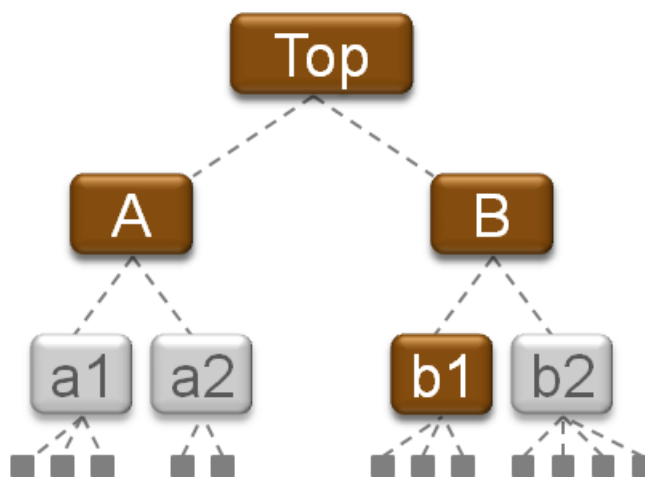

Figure 2: Searching the Design Hierarchy
As an example, Figure 2 shows a hierarchical design where the modules A and B are instantiated at the top-level. Module A includes the a1 and a2 hierarchical instances, and module B includes the b1 and b2 hierarchical instances. Each of a1, a2, b1, and b2 has leaf cells (unisim instances) inside, as indicated in the figure.
The following example is based on Figure 2 which shows a purely hierarchical netlist.
The `-hierarchical` search is equivalent to manually performing a search at each level of the hierarchy, using the `current_instance` command to set the search scope to a particular hierarchical instance, and return all the objects that match the specified name pattern at that level. The following Tcl code, based on Figure 2, illustrates this manual process:
**IMPORTANT:** When `-hierarchical` is used with `-regexp`, the specified search string is matched against the full hierarchical name, and `B/. *` will return all cell names that match this pattern. For example, based on Figure 2, `get_cells -hierarchical -regexp B/. *` returns all the cells below the block B. See the Vivado Design Suite Tcl Command Reference Guide (UG835) [\[Ref 1\]](#) for more information on `-regexp`.